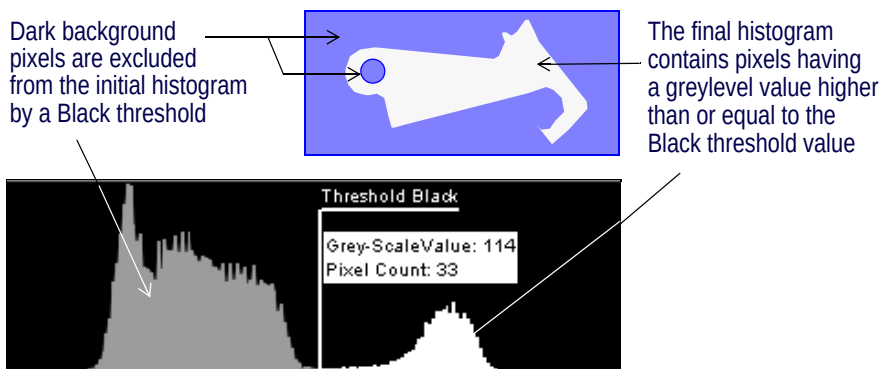

Figure 388 Applying a Threshold to Exclude Background Pixels
- The example illustrated Figure 388 demonstrates the use of a threshold to remove background pixels surrounding an object of interest.